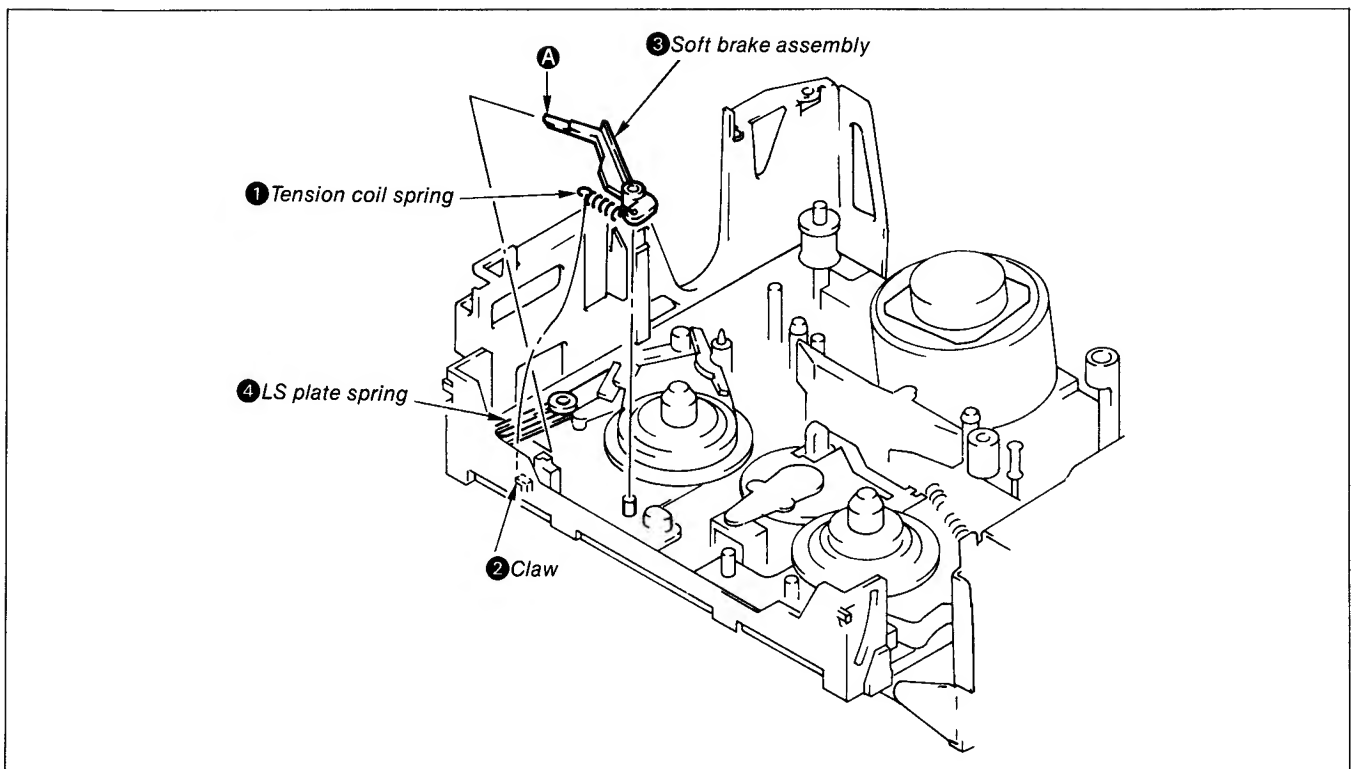

Fig. 8-20.
### 8-3-9. Soft Brake Assembly (See Fig. 8-20)
- 4) Remove tension coil spring ① from claw ②.
- 5) Remove soft brake assembly ③. (See Fig. 8-20)